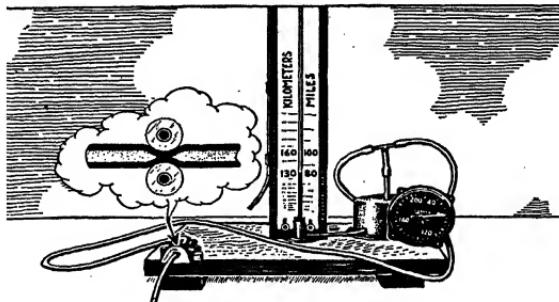

FIG. 41.—Kollsman air-speed test stand.
*Apparatus for Tests in Workroom.*—The Kollsman air speed indicator test stand is seen in Fig. 41. It has a liquid manometer and a "roller pump" on a base. The pump is very simple. It has two rollers between which a rubber tube is pulled when the parts are turned. This puts pressure in the tube. In addition there are, as in the apparatus for testing on the airplane, a T connection and three rubber tubes, one of which goes to the manometer. Of the others, one goes to the instrument to be tested and one is used with the pump.